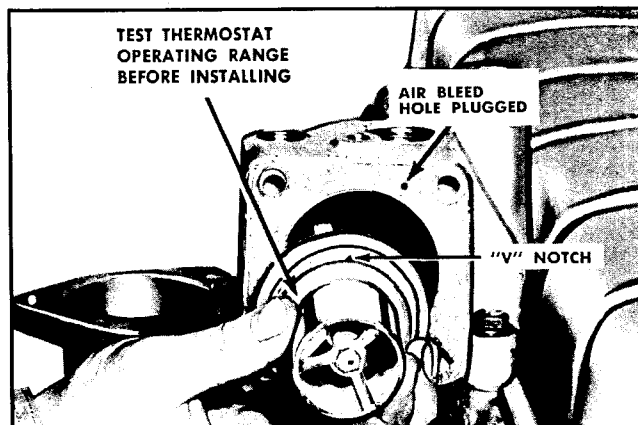

Fig. 4-4. Thermostat installation
1. Using new gasket, install new or tested thermostat in thermostat housing. Fig. 4-4.